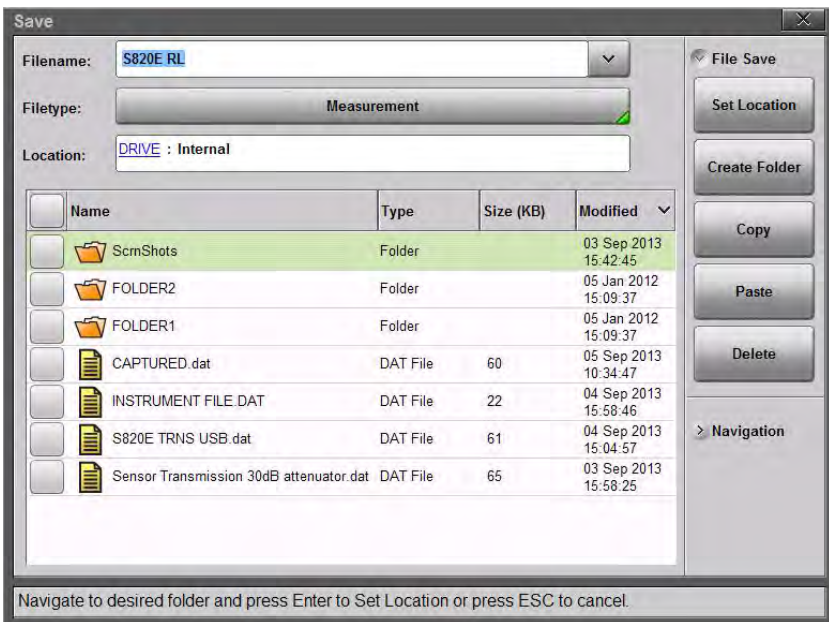
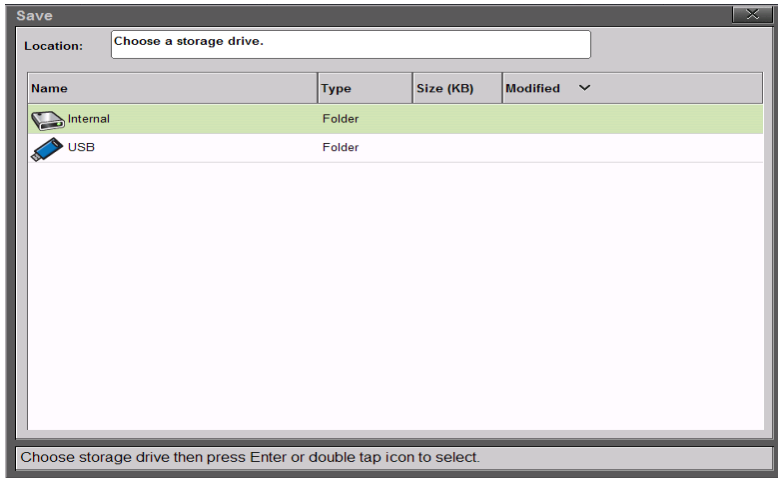

Figure 10-2. Default Save Location
Figure 10-3. Choose a Storage Drive
Navigate within a location in Internal Memory or a USB flash drive, then press **Set Location**. The selected save location is displayed. In Figure 10-2 the bread crumb shows that pressing **Set Location** will set the location to the root level of the internal memory (even if a subfolder is highlighted).
1. Press the **Location** button shown in Figure 10-1 and select where to save the file. The default location is the Site Master internal memory (Figure 10-2).
2. Files can also be saved to an external USB flash drive. Insert a USB flash drive into the Site Master USB Type-A connector (Figure 2-2) and double tap on **DRIVE:** (Figure 10-2) to display the top navigation level showing both the internal memory and the external USB drive (Figure 10-3 on page 10-7).